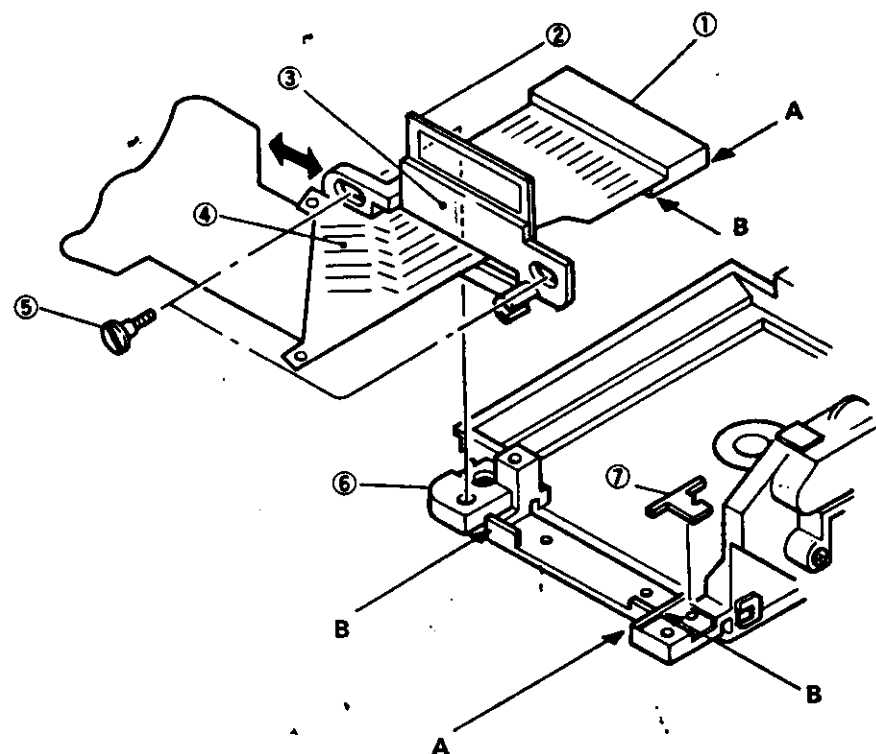

Fig. 22
7. LCD (see Fig. 22)
- 2) Clean up both side of LCD (No. 1) and DISPLAY PART (No. 2) shown in Fig. 22.